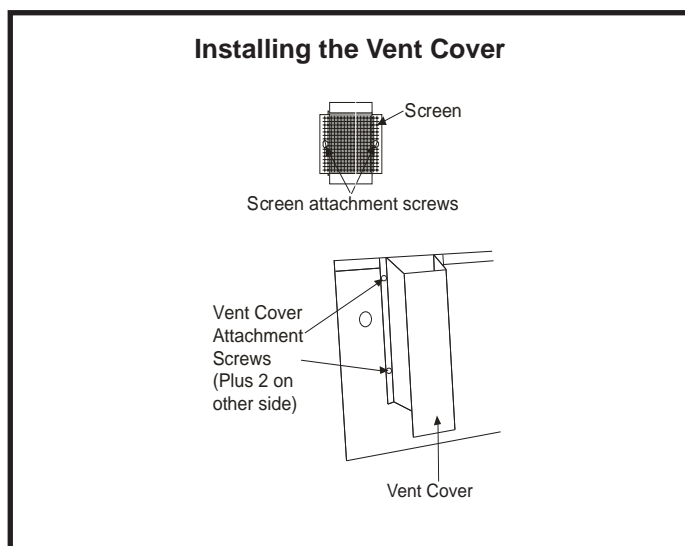

Figure 4
2. Remove the two screws that will be used to attach the screen to the unit (see Figure 4).
4. Remove the 4 screws that will be used to attach the vent cover (see Figure 4). Install the vent cover using these screws. A properly installed vent cover will not extend above the top of the unit.